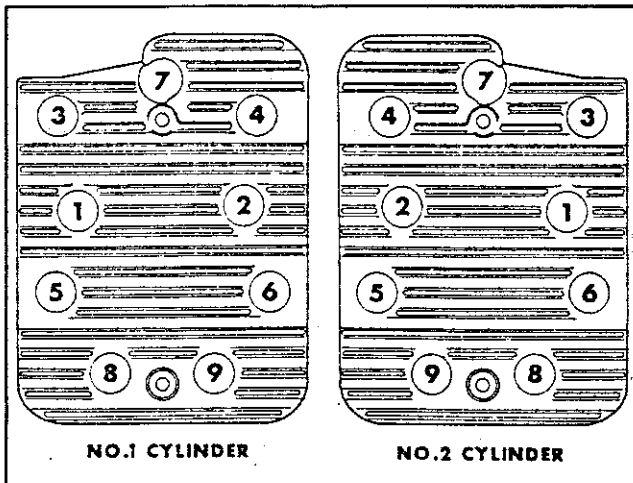

Figure 6-9. Head Bolt Tightening Sequence
- (16) Adjustment of tappets on right hand cylinder is the same as those specified in step (15) after turning the engine over by hand until right hand piston is at top of its compression stroke.
- (17) Position head gasket (70, figure 8-13) and left hand cylinder head (65). Attach with nine washers (69), five screws (68) and four screws (67). Position head gasket (70) and right hand cylinder head (66). Attach with nine washers (69), five screws (68) and four screws (67). Torque all screws (68 and 67) to the limits specified in table 6-1. The cylinder head should be tightened in the order designated per figure 6-9 to a torque of 5 foot-pounds, then 10 foot-pounds, etc. until all are torqued to 29 to 31 foot-pounds (39.3 to 42.0 N.m).